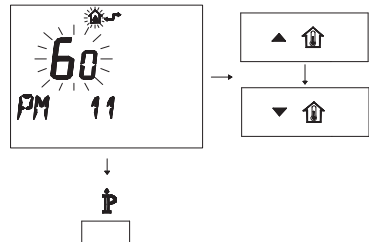

Fig. 7.35
- To modify the programmed SET, act on buttons ▲↑ or ▼↓ and wait for the programmed number to flash (Fig. 7.35). Each step increased or decreased corresponds to 1 second.